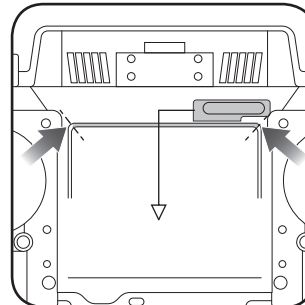

Fig. 1.5
Temperature control module needs to be relocated to where the factory radio body was, metal brace at the top needs to be removed. (Fig. 1.5)
6. Remove the temperature control module. Relocate the module where the OEM radio was. (Fig. 1.5)
7. Cut and remove the metal brace at the top of the radio cavity. (Fig. 1.5)